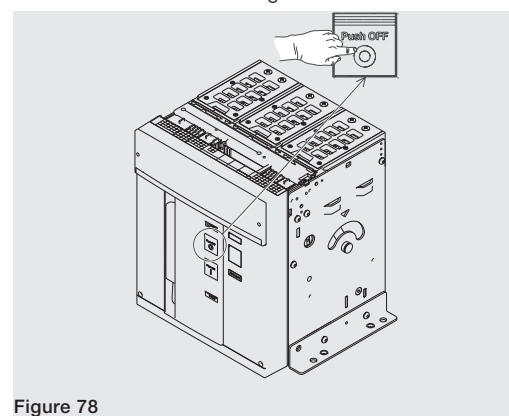

Figure 78
6. Opening - Press the opening pushbutton "O - Push OFF" as indicated in Figure 78.